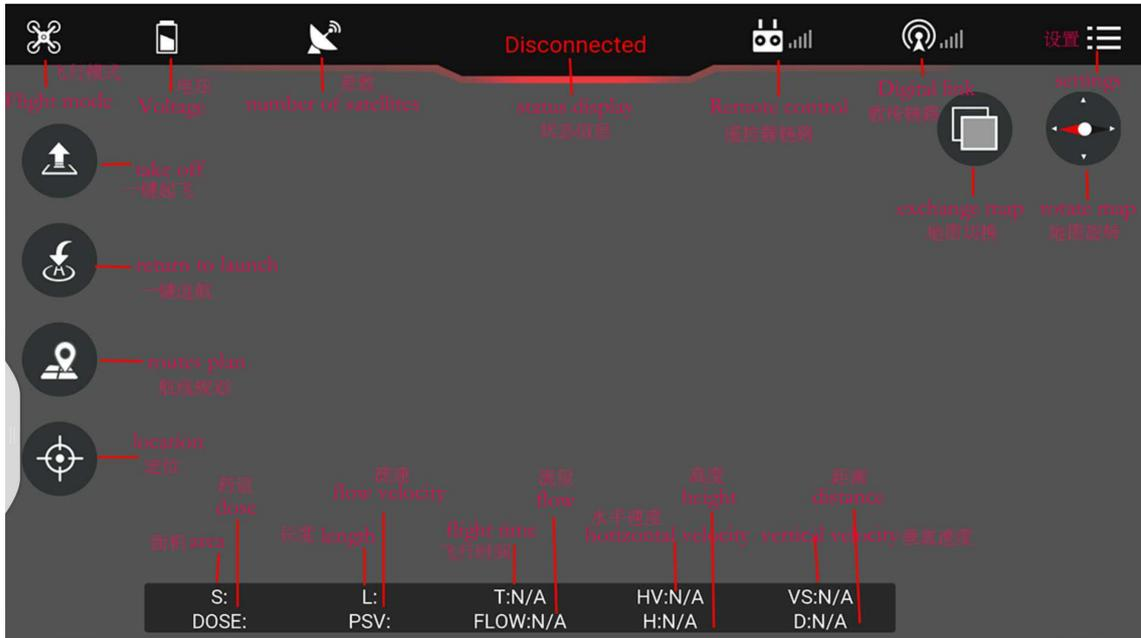

Figure 5-2
4. Enter into the main page, see figure 5-2.